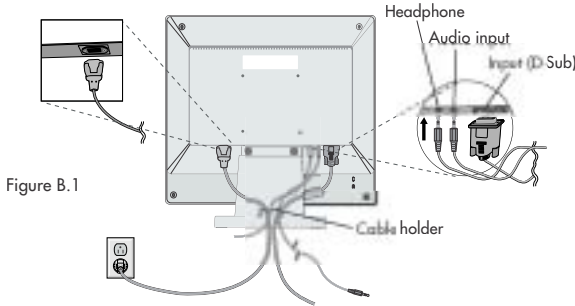

Figure B.1
3. Connect the 15-pin mini D-SUB of the video signal cable to the appropriate connector on the back of the monitor (**Figure B.1**). Connect the audio cable to AUDIO-INPUT on the back of the monitor and the other end to the "Audio out" terminal of the computer.
4. Connect one end of the power cord to the LCD and the other end to the power outlet. Place the video signal cable and power cord between the cable holder (**Figure B.1**).